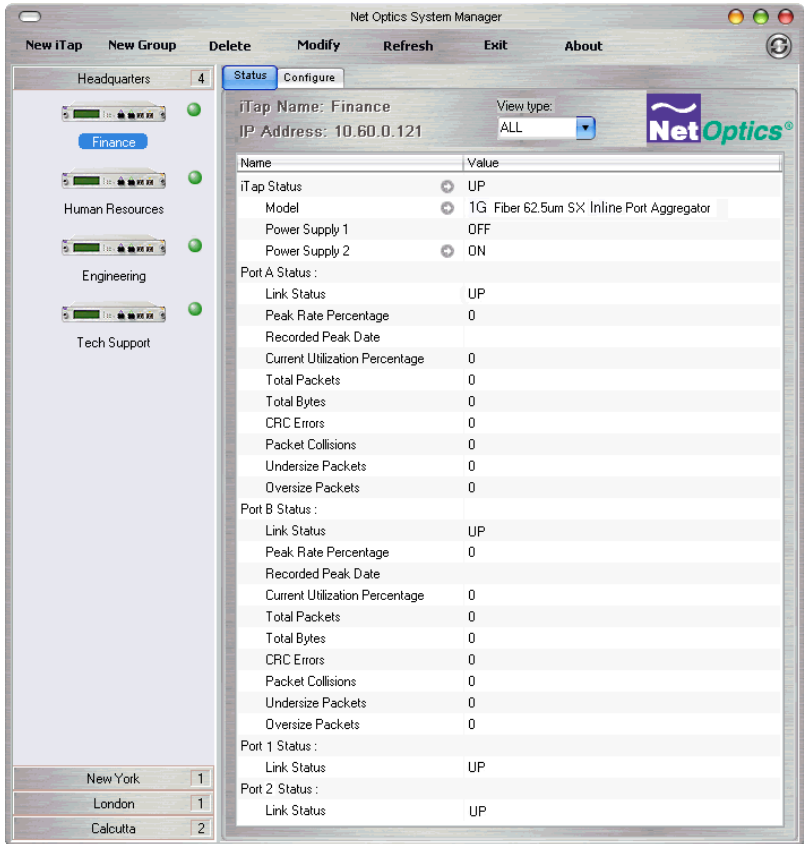

Figure 31: iTap Status Tab
1. Click the image of the iTap you want to view in the System Frame. A window similar to the one in Figure 31 appears.